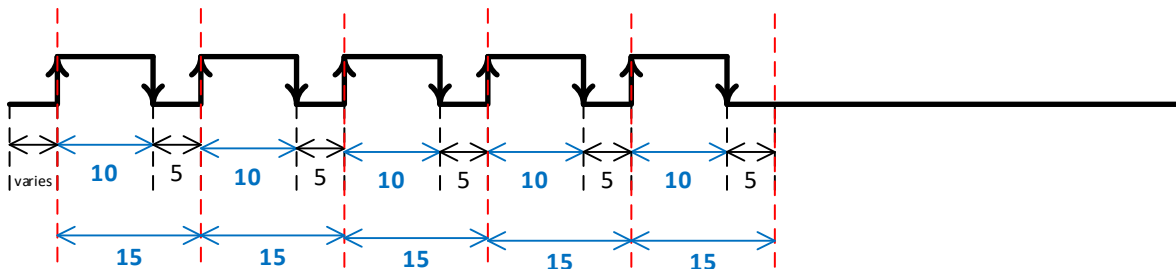
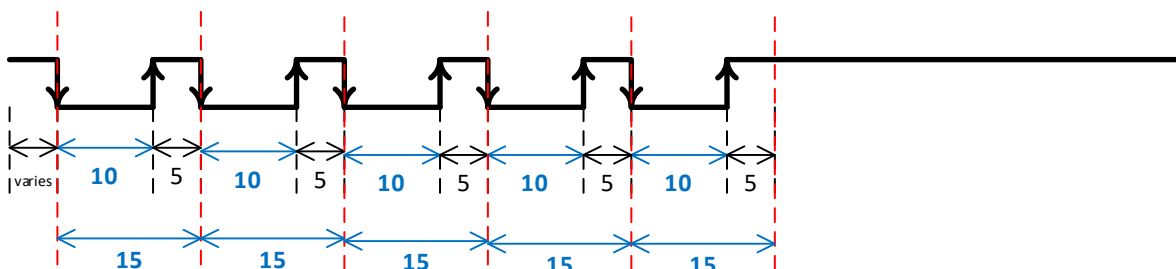

Figure 14 - PWM Burst Output
Figure 15 - PWM Burst Output
Figure 14 and Figure 15 illustrate the PWM Burst Output signal with the PWM Number of Cycles = 5 pulses, one configured with PWM Output Polarity = Positive (0) and one configured with PWM Output Polarity = Negative (1). The configured PWM output is enabled with the *Enable Measurements/Outputs* register. Once the number of pulses that were requested is outputted, the value in the *Enable Measurements/Outputs* register will be reset (self-clearing) to allow for the output to be re-enabled.